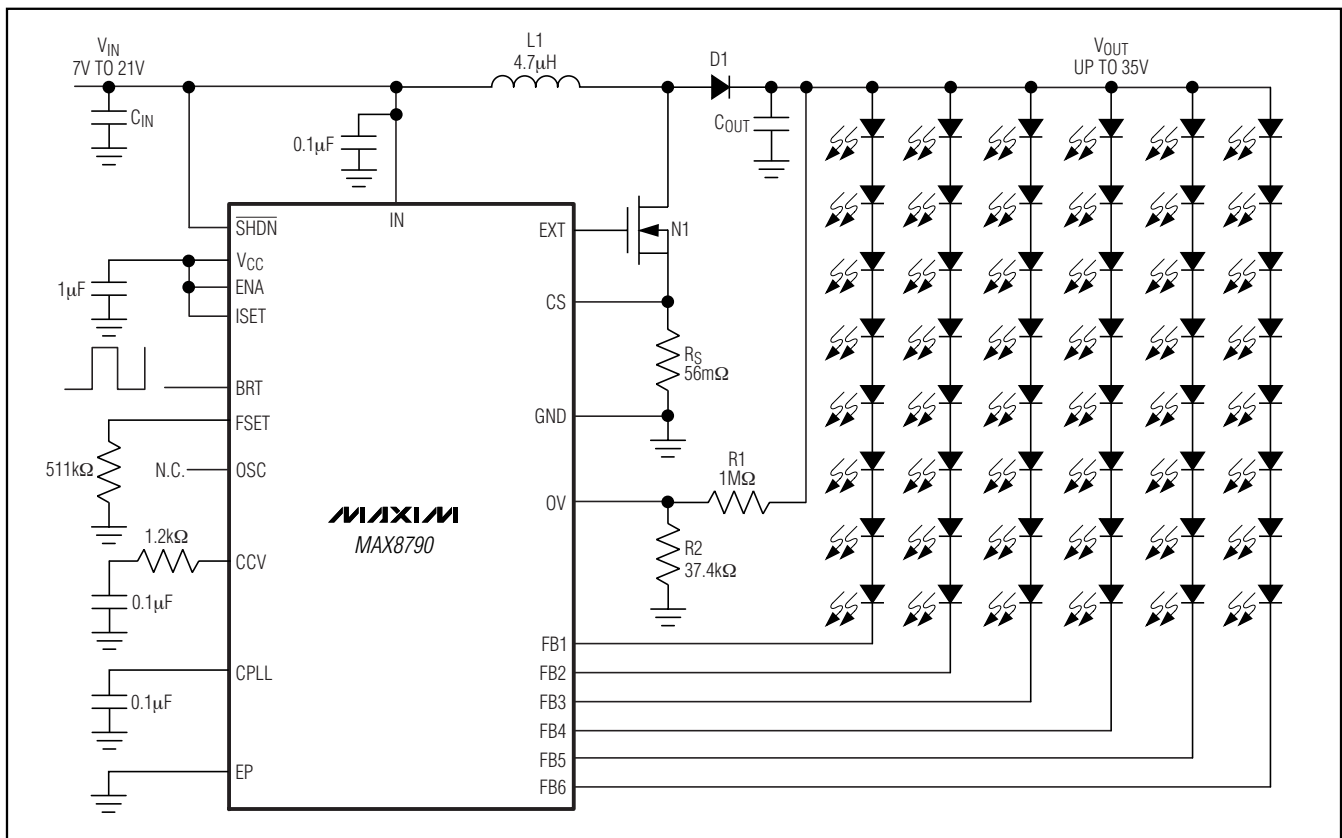

Figure 1. Typical Operating Circuit
To protect the step-up converter when the load is open, or the output voltage becomes excessive for any reason, the MAX8790 features a dedicated overvoltage feedback input (OV). The OV pin is connected to the center tap of a resistive voltage-divider from the high-voltage output (see Figure 1). When the MAX8790 is powered up, if none of the LED strings on FB1–FB6 are connected to the step-up converter output, the step-up converter regulates the output voltage to $V_{\text{OUT}} = 1.23\text{V}(1 + R1 / R2)$. When V_{OV} exceeds 1.23V, a comparator turns off N1. The step-up converter switch is reenabled after the output voltage drops below the protection threshold.